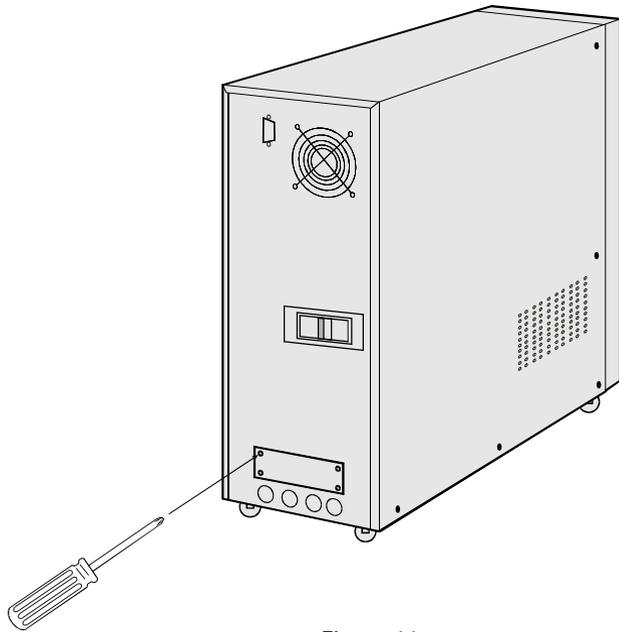

Figure 11
- (1) Remove two screws with "+" screw-driver (Figure 11)